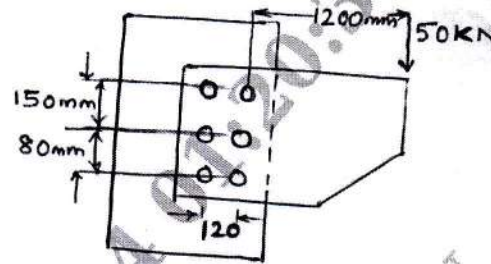

Fig. Q7 (b)
- b. Determine the diameter of rivet for the joint as shown in Fig. Q7 (b). The allowable stress in the rivets is 100 N/mm^2 . (10 Marks)